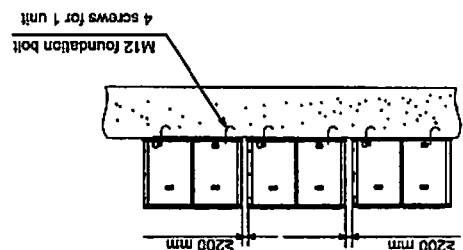

Fig. 4-4
- As shown in Fig. 4-4, leave an interval of 100mm between the outdoor units.